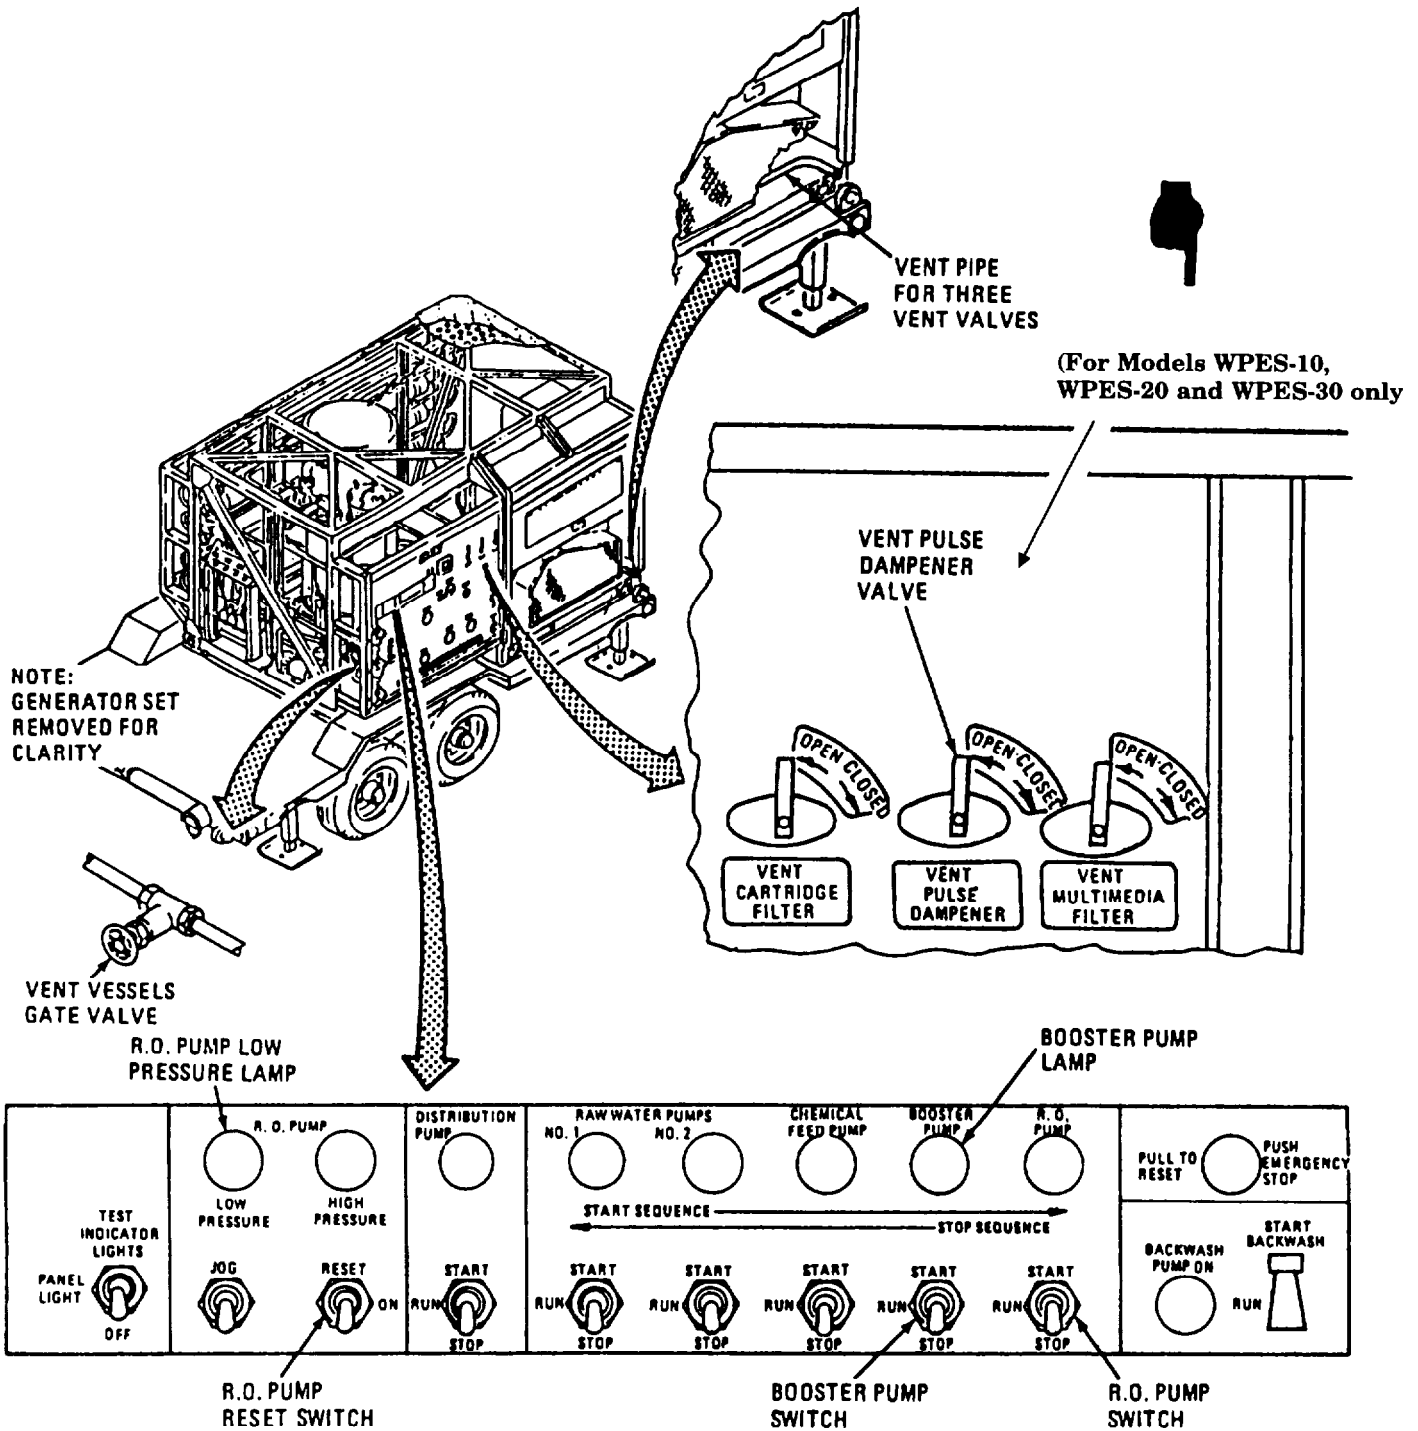

Figure 2-58.
There should be air venting from the vent pipe (figure 2-58) as the multimedia filter fills, followed by a steady stream of water when the filter is full. If not, the vent line is probably blocked by a small piece of filter media. Notify unit maintenance.
- (2) Set VENT MULTIMEDIA FILTER valve to OPEN.
- (3) Set VENT MULTIMEDIA FILTER valve to CLOSE as soon as a full stream of water flows out vent pipe below R.O. pump belt guard (Models WPES-10, WPES-20 and WPES-30) or below R.O. pump cover (Models H-9518-1, H-9518-2 and H-9518-3) (figure 2-58).
g . Start Booster Pump. Refer to figure 2-58.
h . Start R.O. Pump. Refer to figure 2-58.
- (2) Set VENT PULSE DAMPENER (Models WPES-10, WPES-20, and WPES-30) valve (figure 2-58) to OPEN.
- (3) Push R.O. PUMP RESET switch upward, R.O. PUMP LOW PRESSURE lamp goes OFF and switch returns to ON.
- (7) Close VENT PRODUCT WATER valve (7, figure 2-46) when no air bubbles are visible in PRODUCT WATER FLOW meter (3, figure 2-58) and a steady stream of water (no bubbles) is coming out of the VENT PRODUCT WATER vent pipe.